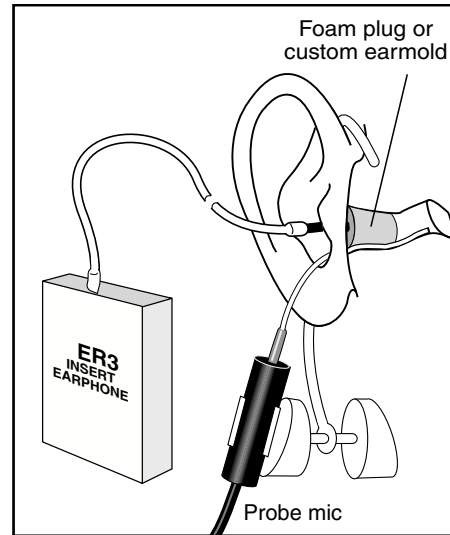

Figure 6.3.5D—Insert foam eartip connected to insert microphone.
3. Insert the foam eartip connected to the insert earphone into the client’s ear, or attach the earphone directly to the client’s earmold, and insert the earmold into the client’s ear. See Figure 6.3.5D.